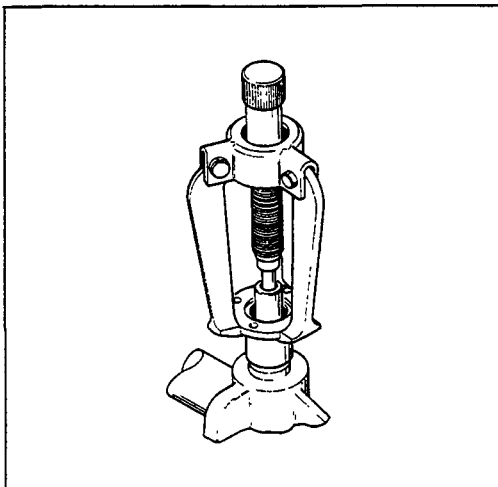

Figure 7
- Remove the pinion nut and companion flange as shown in Fig. 7. Remove the oil seal taking care not to damage the housing bore.
2. Remove the companion flange using the appropriate puller. (Fig.7).